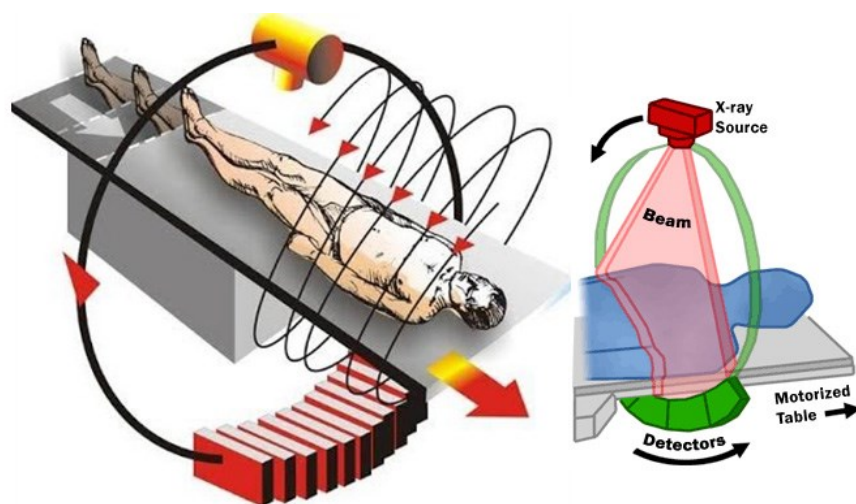
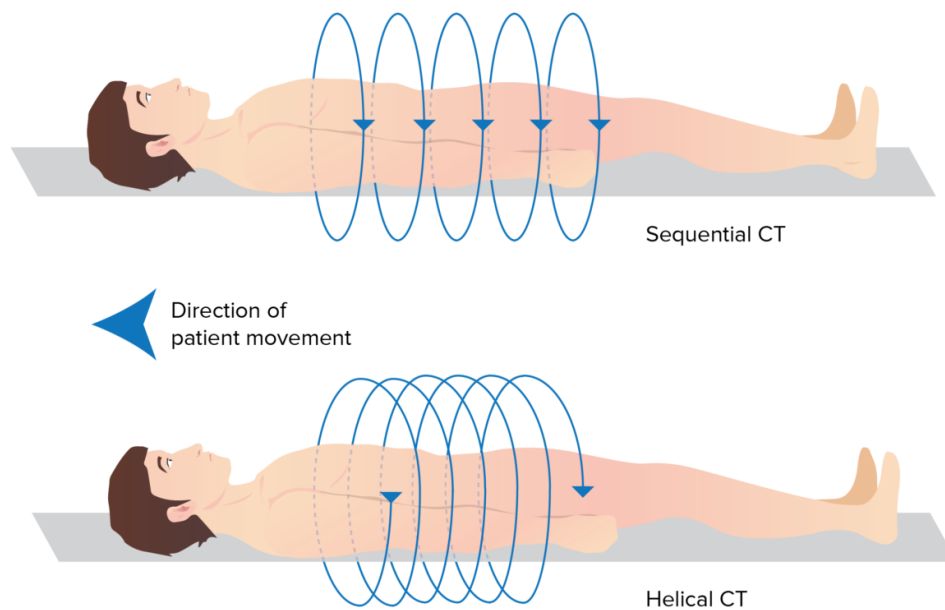

Figure 1: Helical or spiral CT scanner.
Figure 3: Difference between the Sequential CT and helical CT.
Helical computed axial tomography scan (CAT scan or CT scan) also called a spiral CT scan (figure1):
- The x-ray beam from the CT traces a helical path (x-ray tube rotates in helical path) as in figure1 and figure 3.
Figure 3 shows the difference between the Sequential CT and helical CT. The specification for a typical helical CT is given in Table1.
Multidetector array is a combination of several linear arrays (multiple solid state detector array). In this, the X-ray tube is directed at multiple rows of detectors along the longitudinal (Z) axis. Each row has hundreds of separate detector elements (Figure3).